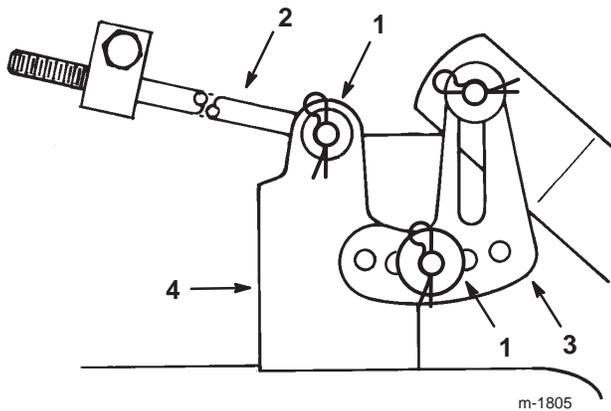

Figure 49
- Remove the hairpin cotter and washer from the leveling bracket (Fig. 49). To level the blades, reposition the leveling bracket in a different hole and install the washer and hairpin cotter (Fig. 49). A front hole lowers the blade height and a rear hole raises its height. Repeat this procedure on the opposite side of the mower.